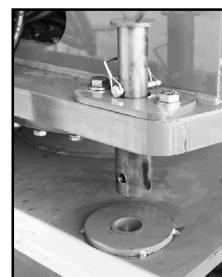

Figure 1: Locking Bolt
**Note: Refer to Figures 1 through 4 for chassis and platform control locations.**
3. Retract Locking Bolt. See Figure 1.